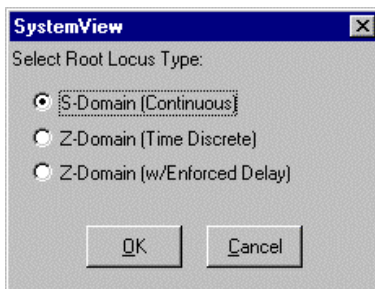

Figure 15.1. Domain selection menu for the Root Locus computations
3. In the dialog box, shown in Figure 15.1, select S-Domain, Z-Domain, or Z-Domain w/enforced delay, (has added poles at $z=0$ resulting from the implicit sample delays).